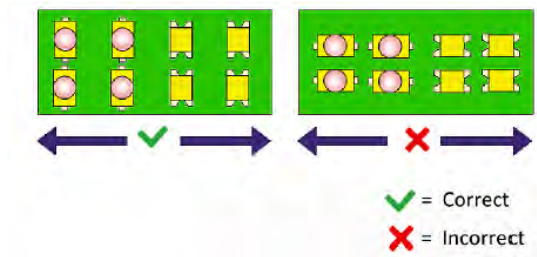

Fig. 11
- 6. Mounting direction of SMD components should be placed perpendicular to the direction of PCB travel. This will ensure the solder wets on each lead simultaneously during reflow and prevent shifting of LEDs. Refer to below diagram (Fig.11) for examples of recommended mounting direction.